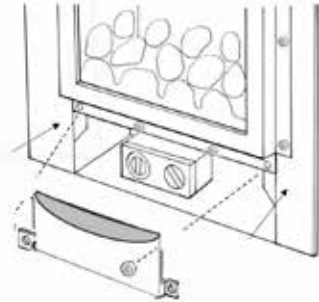

Figure 48
3. Fit the infill plate (See Figure 48). If required attach fret in fills with magnets provided.